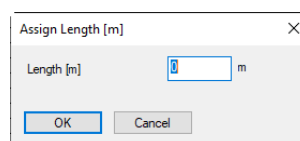

Figure 2.6.3: Assigning the length using *List data*
3. Rightclick *Length [m]*, which will open the dialog window Assign length (fig. 2.6.3)